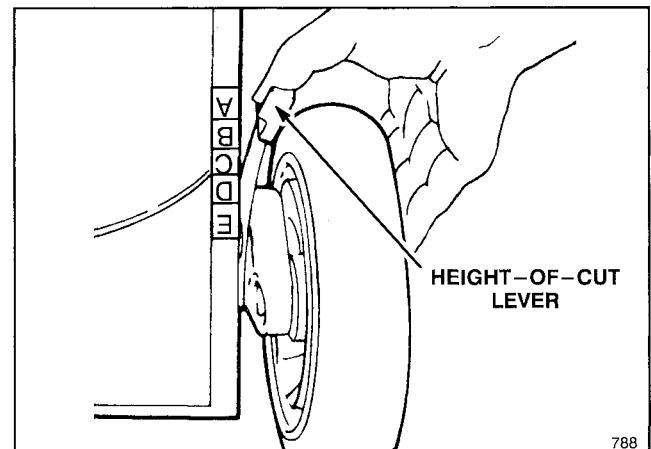

Figure 11
3. Squeeze the mower's height-of-cut lever toward the wheel and move it to the corresponding color/letter on the mower housing (Fig. 11). For easier adjustment, lift housing up so wheel is off ground. **Do not put fingers under housing when lifting.** Ensure pin on height-of-cut lever engages slot in housing. Adjust all wheels to the same color/letter setting.